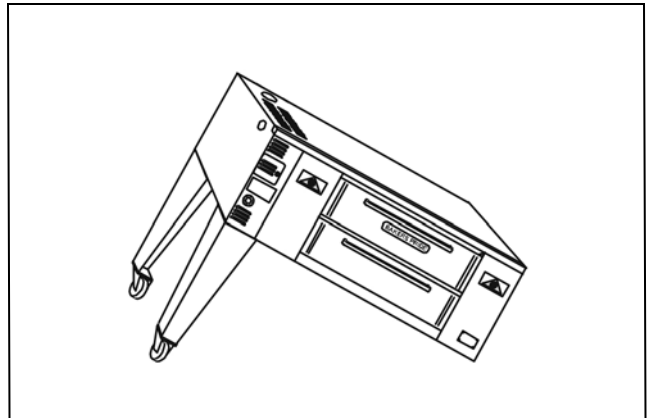

Figure 5
- Bolt side braces and rear brace to legs using supplied 3/8-16 x 3/4 bolts, lock washer, and flat washer. (See Fig. 5).